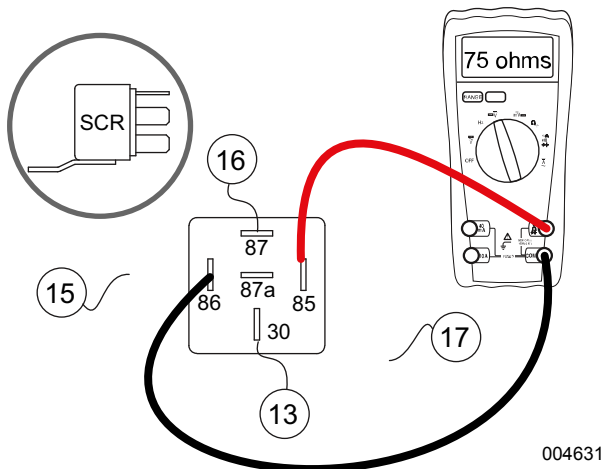

Figure 4-54. Testing Starter Contactor Relay (SCR)
2. See Figure 4-54. Disconnect wire 15 and wire 17 from the starter contactor relay (SCR).